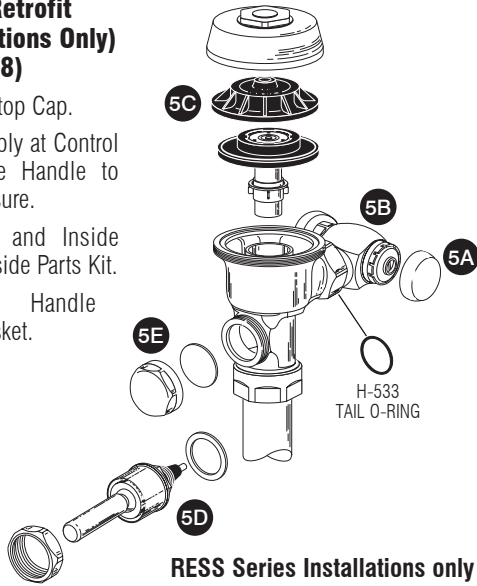

Figure 8
Step 5 — Remove Components from Existing Flushometer (RESS Retrofit Installations Only) (Figure 8)
Install Handle Cap (Figure 8, Item 5E)